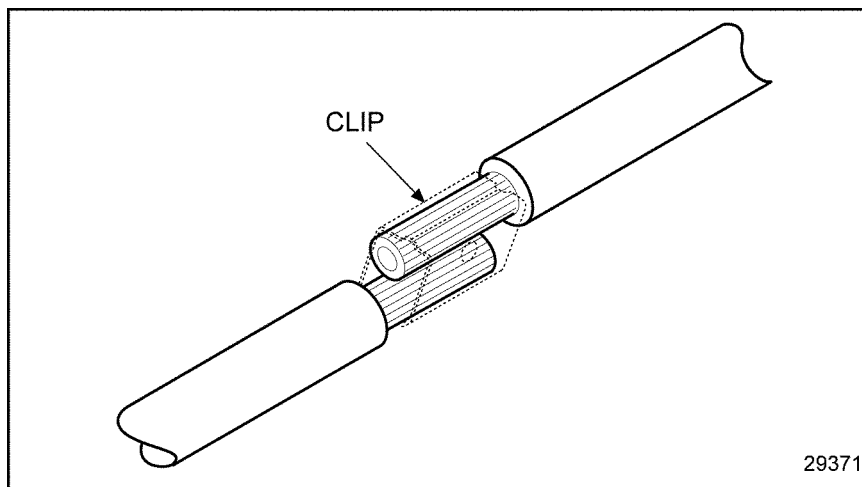

Figure 3-32 **Securing the Leads With a Clip**
2. Secure the leads with a commercially available clip and hand tool. See Figure 3-32.